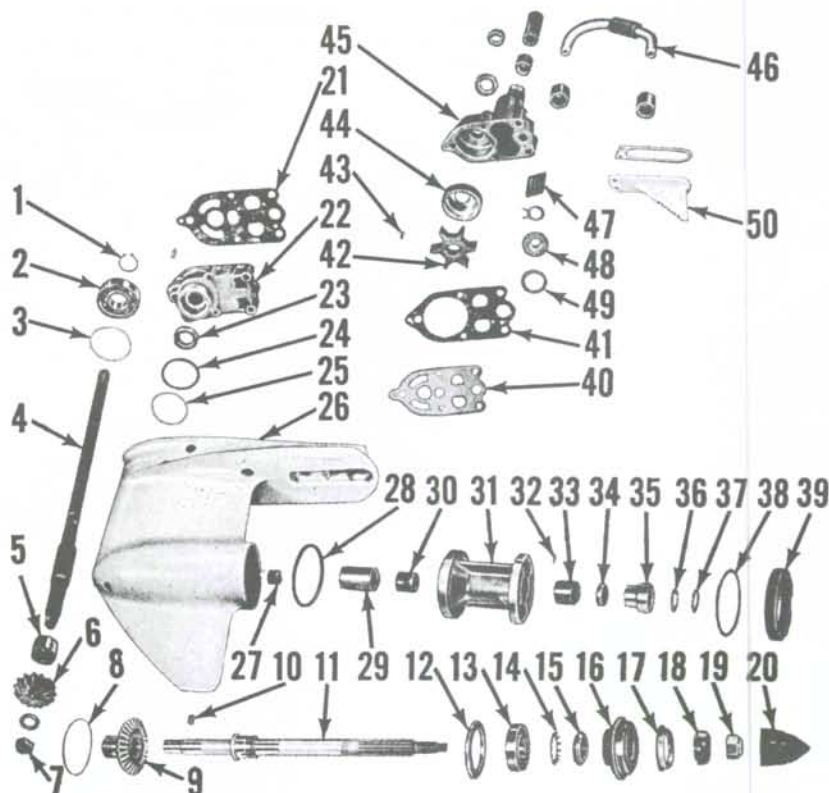

Fig. M7-34—Exploded view of Counter Rotation gearcase and associated parts used on direct reversing models. Illustrated is Merc 800 unit.
(31—Fig. M7-34). Carrier can only be partially removed without first removing dowel locating pin (32).
COUNTER-ROTATION UNIT. Refer to Fig. M7-34. Service and adjustment procedures are similar to that of Standard Rotation Units covered in the preceding paragraph. Follow the procedures outlined in the preceding paragraph except for the following differences.